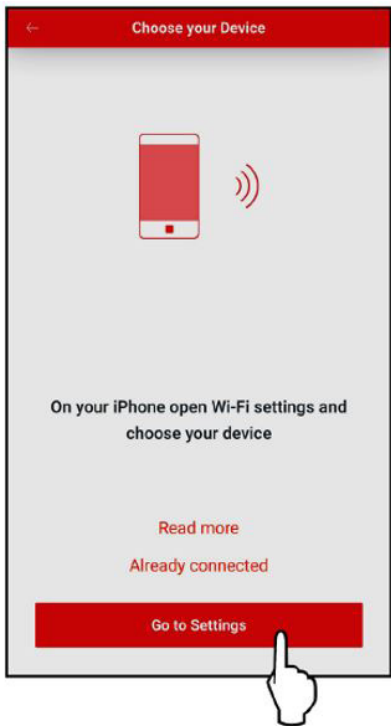

Figure 97. Go to Settings
- 4. Press the "Go to Settings" button on the "Choose your device" screen. See Figure 97.